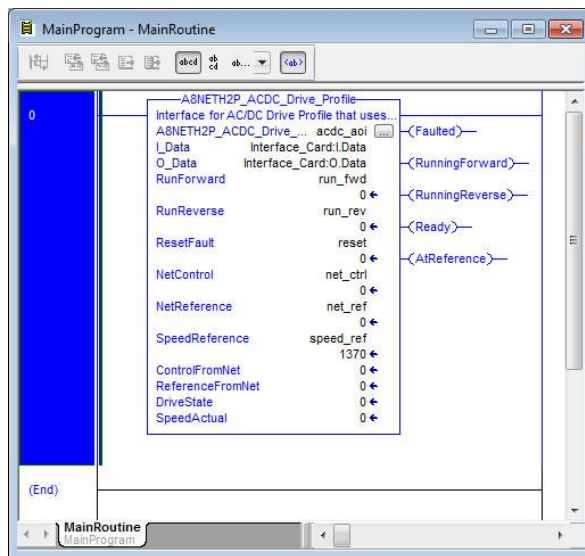

Figure 39: Configure AC/DC Drive Profile AOI
- 10) Edit the add-on instruction according to Figure 39.